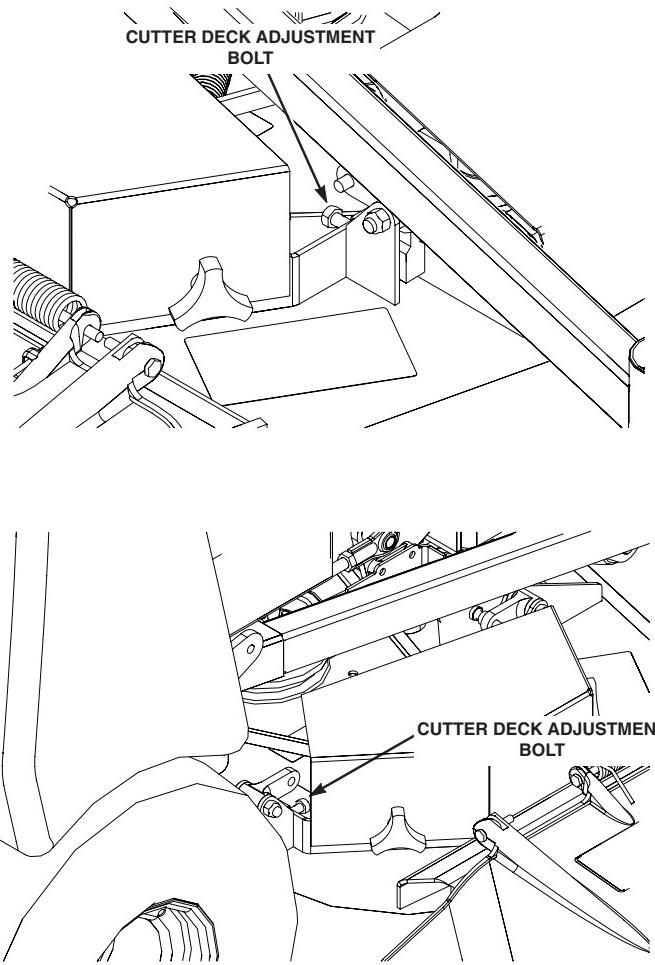
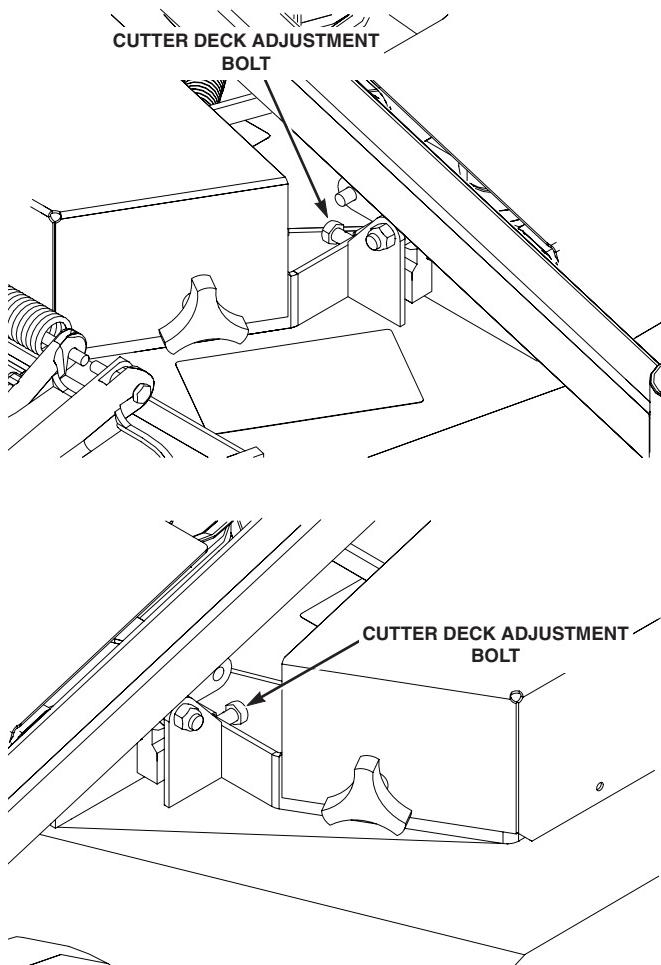

Figure 6-4. Cutter Deck Level Adjustment
Figure 6-5. Cutter Deck Pitch Adjustment
1. On the front RH side of the cutter deck locate the cutter deck adjustment levers. Loosen the elastic stop nuts securing the cutter deck adjustment levers on the front and rear of the cutter deck. See Figure 6-4.
1. Loosen the elastic stop nuts securing the deck level links on the front of the cutter deck on both sides. See Figure 6-5.
- A. Loosen the elastic stop nuts securing the deck level links on the front of the cutter deck on both sides (See Figure 6-4 and Figure 6-5 for Cutter Deck Adjustment Lever Location).
A. Loosen the elastic stop nuts securing the deck level links on the front of the cutter deck on both sides (See Figure 6-4 and Figure 6-5 for Cutter Deck Adjustment Lever Location).